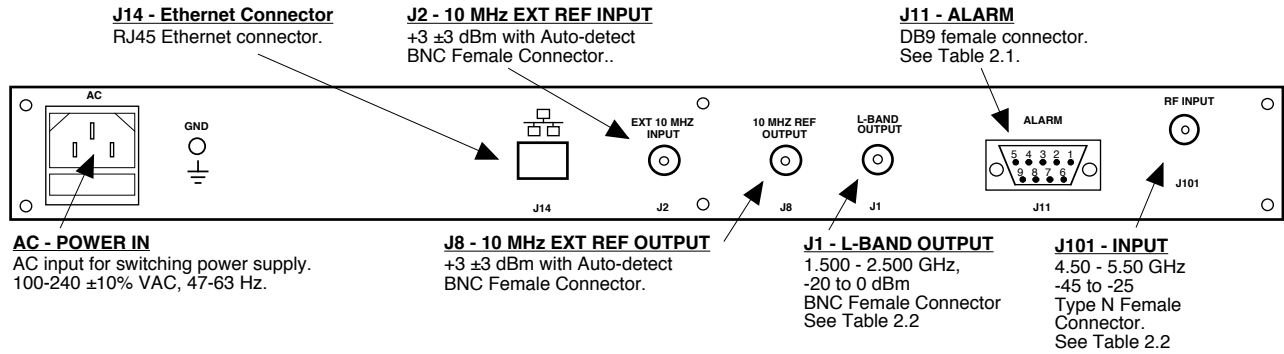

FIGURE 2.1 3116-4555#-2000 Rear Panel I/O's
Figure 2.1 shows the input and output connectors on the rear panel.
1. Connect a -45 dBm to -25 dBm signal to RF IN, J101 (Figure 2.1).